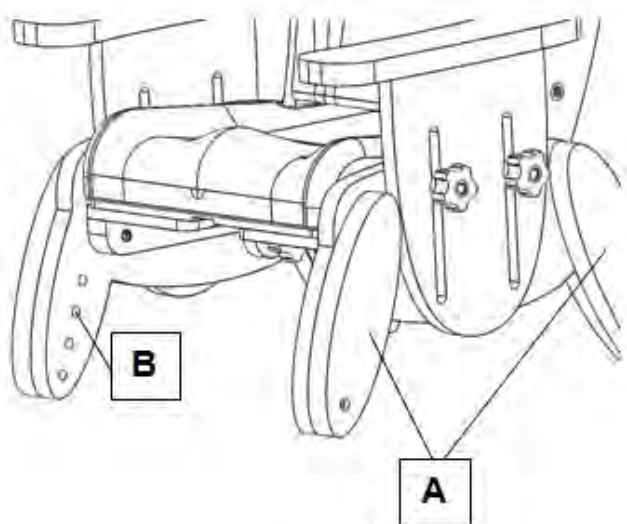

Figure 3
- Your Juni chair is fitted with four outrigger legs (*Ref. A of Figure 3*), permitting seat height adjustment
- For each outrigger, identify and remove the securing screw (M6 x 30) (*Ref. B of Figure 3*) to permit outrigger removal